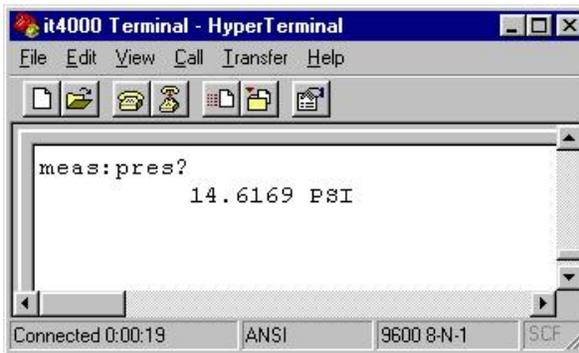

Figure 2: Windows Terminal Program
4. An example of a RS-485 Transducer response is shown below in Figure 2.